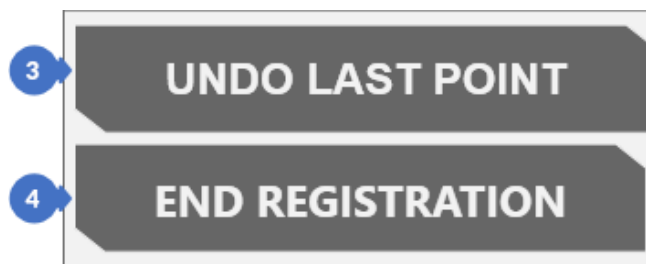

Figure 385. View of the buttons after starting the manual adjustment process
Once the reference scans (A) and the scans to match (B) have been selected, start the adjustment process by pressing the *BEGIN REGISTRATION* button (3) (Figure 382). This will block the possibility of modifying the content of both lists and will prevent from exiting the panel until the entire process is completed. After the completion, the *BEGIN REGISTRATION* (3) button will be replaced by the *UNDO LAST POINT* button (Figure 385) that can be used to undo the added points – this feature will be explained in detail later in this subsection. The *END REGISTRATION* button (4) is also unlocked, which enables to finish the manual registration process.
The order of adding points does not matter, it is important that the given color of the point shows the same surface on the reference scans and the matching scans. Each of the added points can be undone using the *UNDO LAST POINT* button (3) (Figure 385). This button removes points in the opposite order to the order in which they were added – starting from the last added. When the scans are matched, all the points can be removed and marked again.